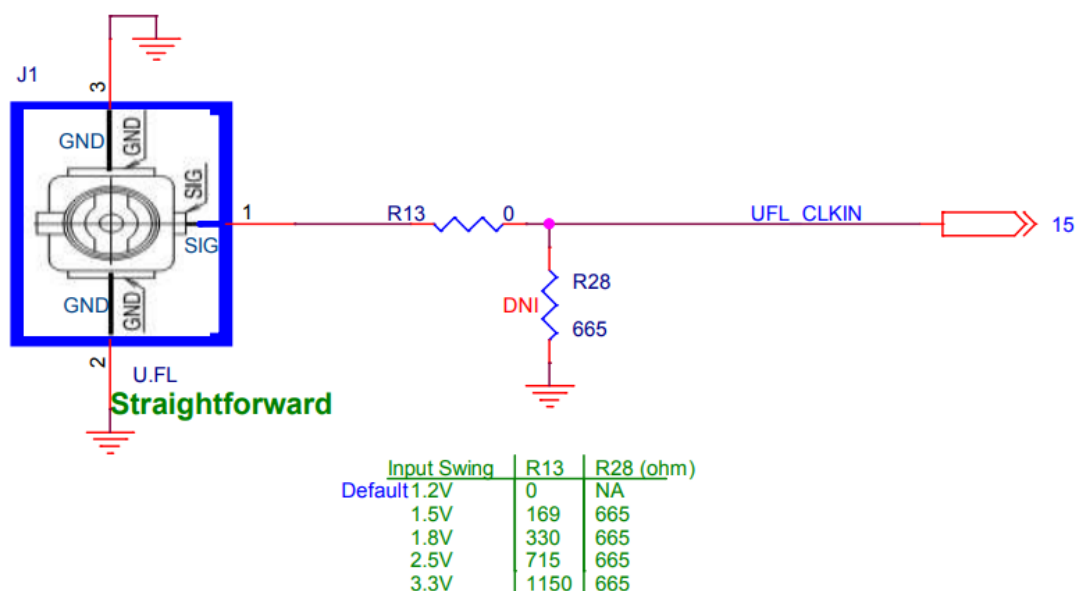

Figure 2-15 U.FL clock input signal level setting
1.2V. If the input clock I/O standard from the J1 exceeds 1.2V, it should be divided to 1.2V by using two series resistors (R28 and R13). **Figure 2-15** shows that in the case of different input clock voltage level, the corresponding resistance value settings for R13 and R28 are required.